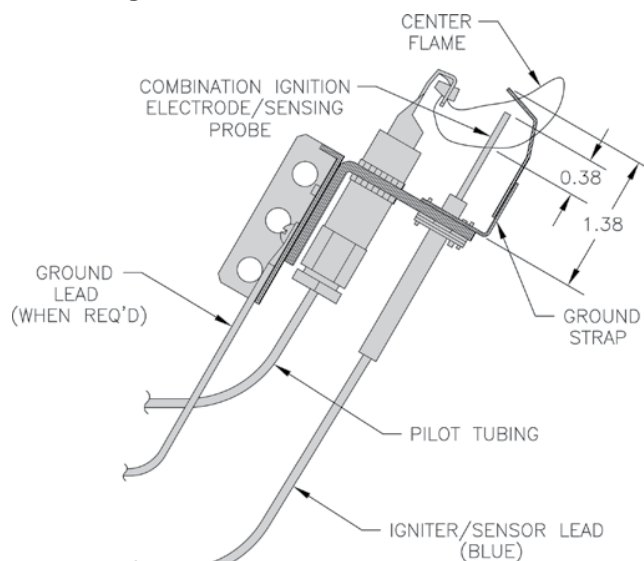

Figure 48: Pilot Burner Flame
- J. Check pilot burner flame.** See Figure 48. Flame should be steady, medium hard blue enveloping 3/8 to 1/2 inch of sensing probe.